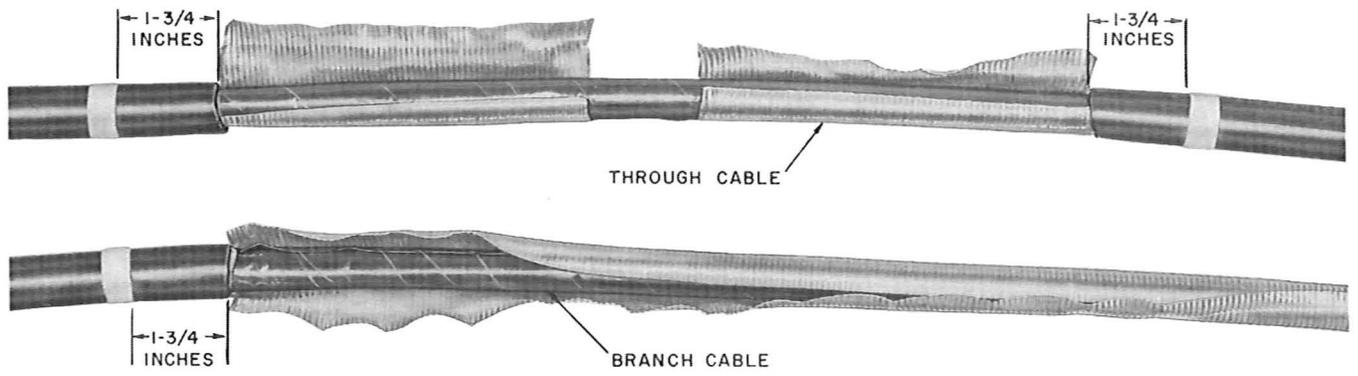

Fig. 17—Removing Metal Sheath
5.08 Cut the metal sheath and remove from the cables as shown in Fig. 17.